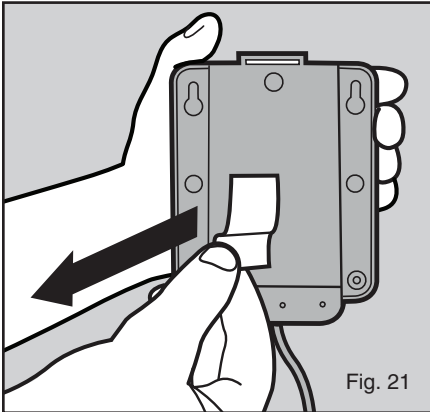

Fig. 21
22. Pull the battery insulator strip out from the back of the battery compartment (see figure 21).